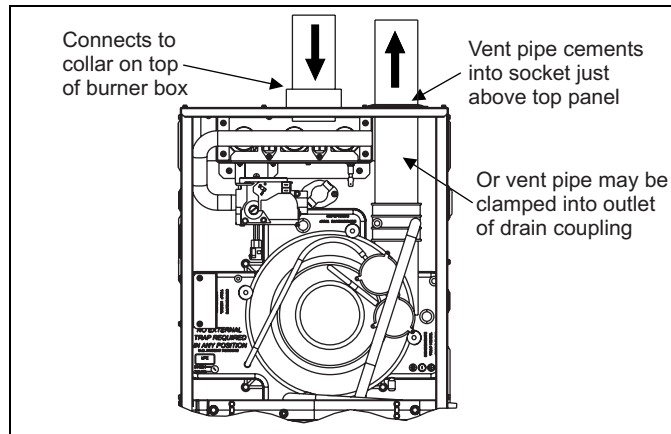

FIGURE 36: Direct Vent Air Intake Connection and Vent Connection
1. **OUTDOOR COMBUSTION AIR:** This is a direct vent configuration where the combustion air is supplied through a PVC or ABS pipe that is connected to the PVC coupling attached to the furnace and is terminated in the same atmospheric zone as the vent. This type of installation is approved on all models. Refer to Figure 36.
This installation requires combustion air to be brought in from outdoors. This requires a properly sized pipe (Shown in Figure 36) that will bring air in from the outdoors to the furnace combustion air intake collar on the burner box. The second pipe (Shown in Figure 36) is the furnace vent pipe.